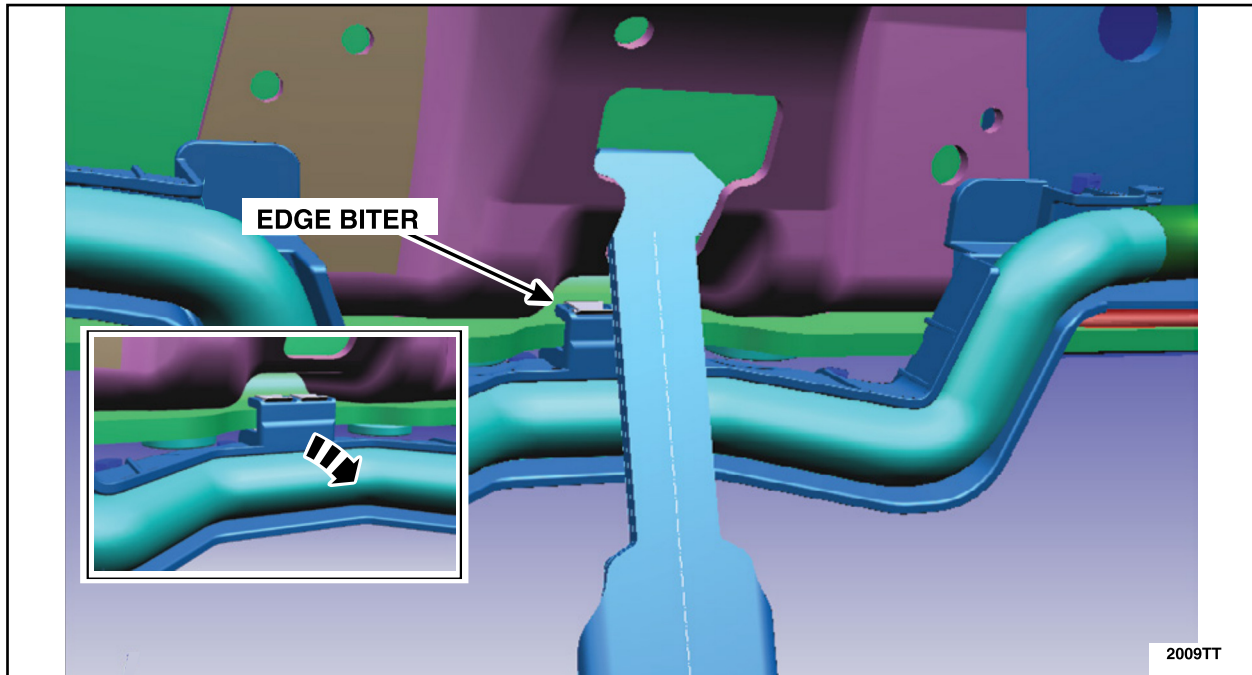

FIGURE 39
2. Detach the edge biter clip from the frames lower flange as shown in Figure 39.